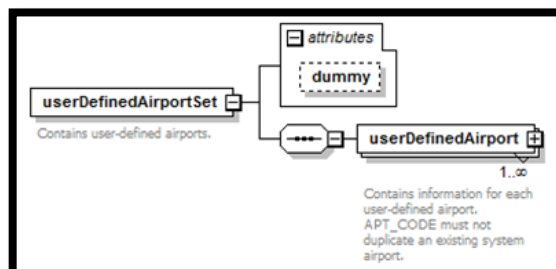

Figure 42- xml Userdefinedairportset
1. **AsifXml/study/userDefinedAirportSet/userDefinedAirport (Figure 42):**